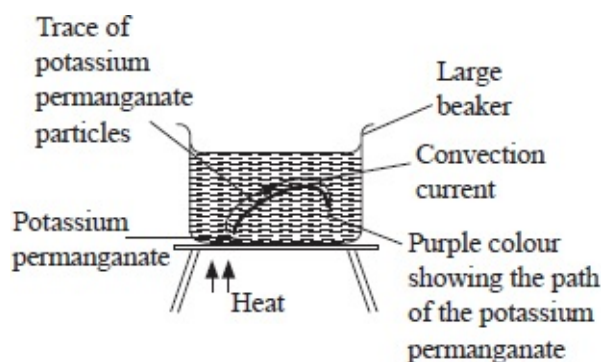

Fig. 7.15: Convection in water
- Put some crystals of potassium permanganate in one corner of a large beaker, as shown in figure 7.15.